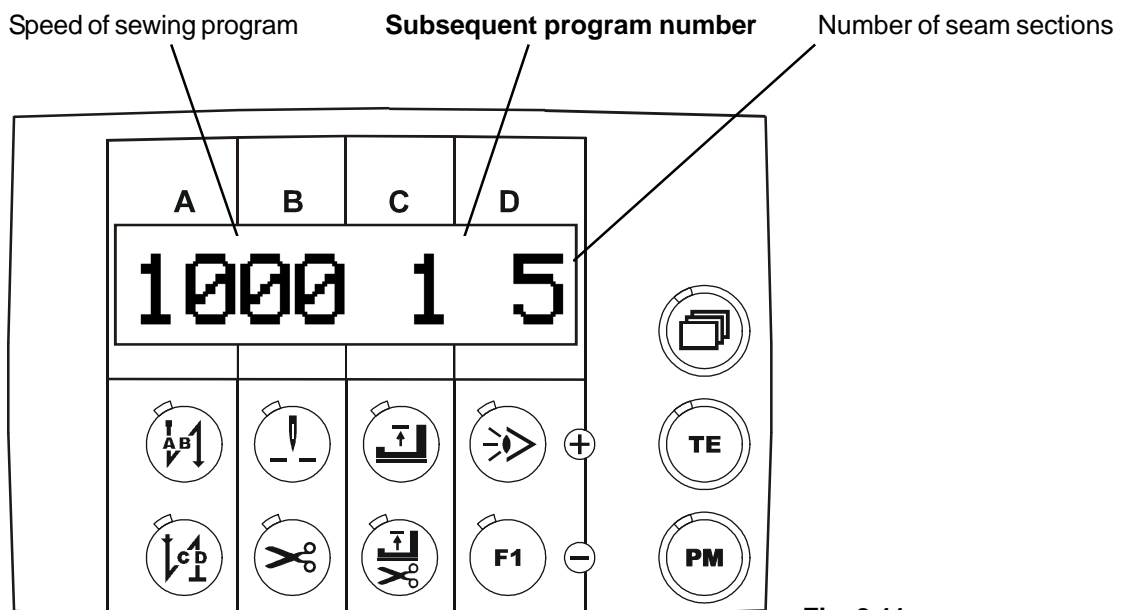

Fig. 8.11
7.6 Press the **paging key** until the display **Fig. 8.11** appears
- Using the **D+ / D-** keys set **parameter <313> to value 1** (Fig. 8.11)